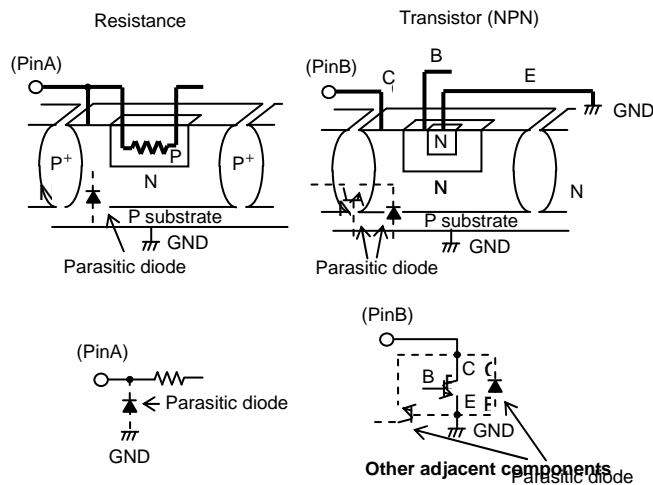

Fig.1 Simplified structure of a Bipolar IC
12. This IC is a monolithic IC which (as shown is Fig.1)has P⁺ substrate and between the various pins. A P-N junction is formed from this P layer of each pin. For example, the relation between each potential is as follows,